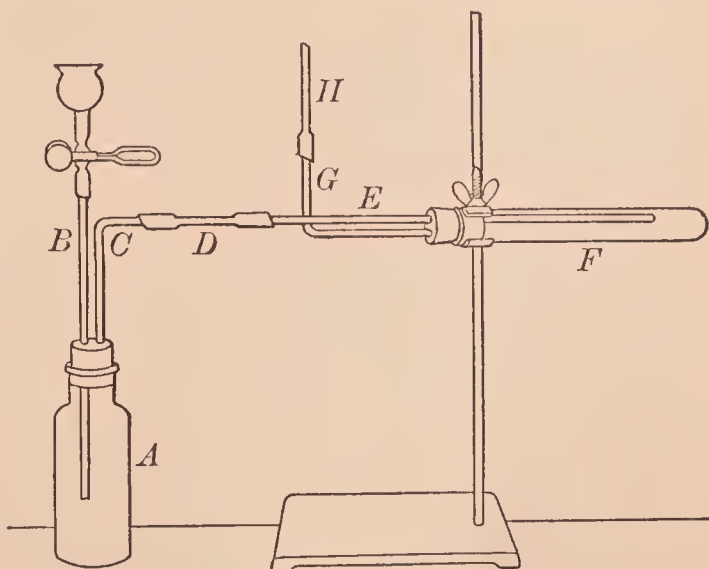

FIG. 25. — Apparatus for reducing copper oxide by hydrogen
**APPARATUS.** — As in Fig. 25. The parts lettered *A*, *B*, *C*, *D*, *E* constitute the hydrogen generator used in **Exercise 9**. *F* is a large test tube fitted with a two-hole stopper; the delivery tube *E* passes through one hole and extends nearly to the bottom of the test tube. The right-angle tube *G* passes just through the other hole; the tube *G* is lengthened by the rubber tube *H*.
Arrange the apparatus as in Fig. 25. Slip the copper oxide into the *dry* test tube *F* (Fig. 25), hold the tube in a horizontal position and tap it gently to spread the solid into a thin layer. Connect this test tube with the rest of the apparatus, and clamp it into the proper position, taking care not to crush the tube. Put the zinc into the bottle *A*.